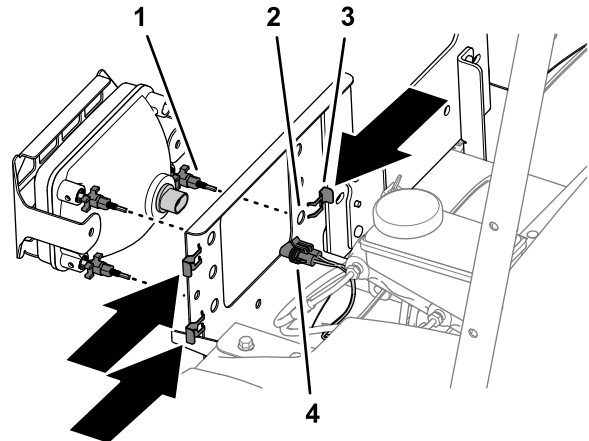

Figure 46
6. Connect the 2-socket connector of the machine wire harness to the 2-pin connector at the back of the headlight (Figure 46).